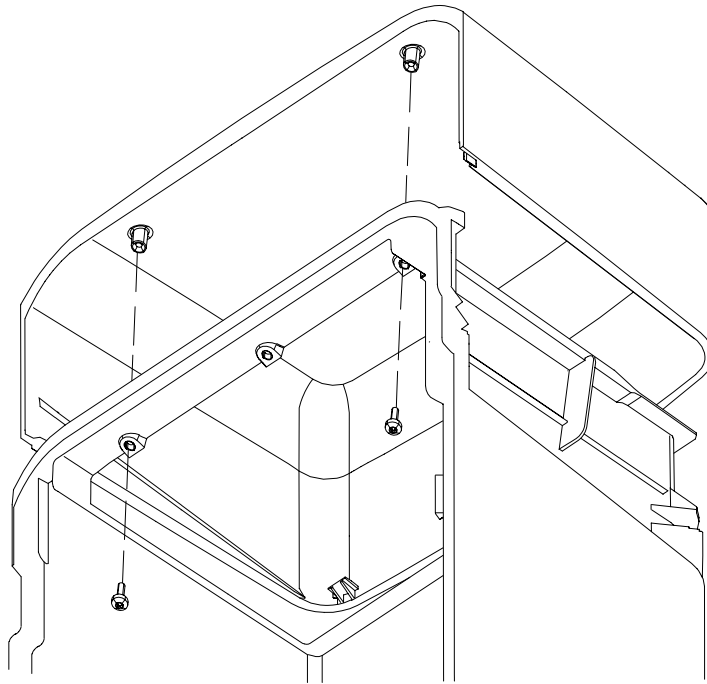

Figure 6. Removing the cover top
2. Before painting, detach the cable cover and the cable cover support from each other to prevent them from sticking to each other by paint and to ensure that paint is applied evenly. The cover top can also be detached from the cover by unscrewing the Torx T20 screws (see Figure 6).